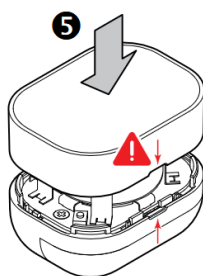

Fig.4
4. Replace the back cover by pressing it against the main body of the Device until you hear a clicking sound, as shown in Fig. 4.